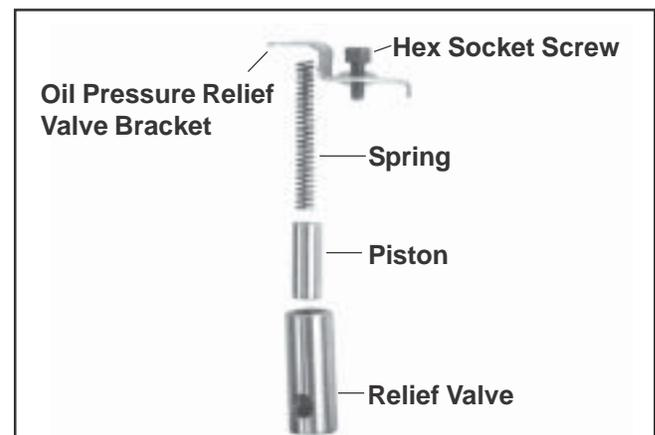

Figure 11-14. Installing Oil Pressure Relief Valve Body, Plunger, and Spring.
2. Insert the piston and spring into the body. See Figure 11-14.
3. Install the bracket and hex flange screw. See Figures 11-14 and 11-18.